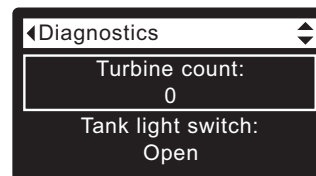

FIG. 97
2. Press the DOWN (▼) button to scroll through the list until **Turbine Count** is displayed (See Figure 97).